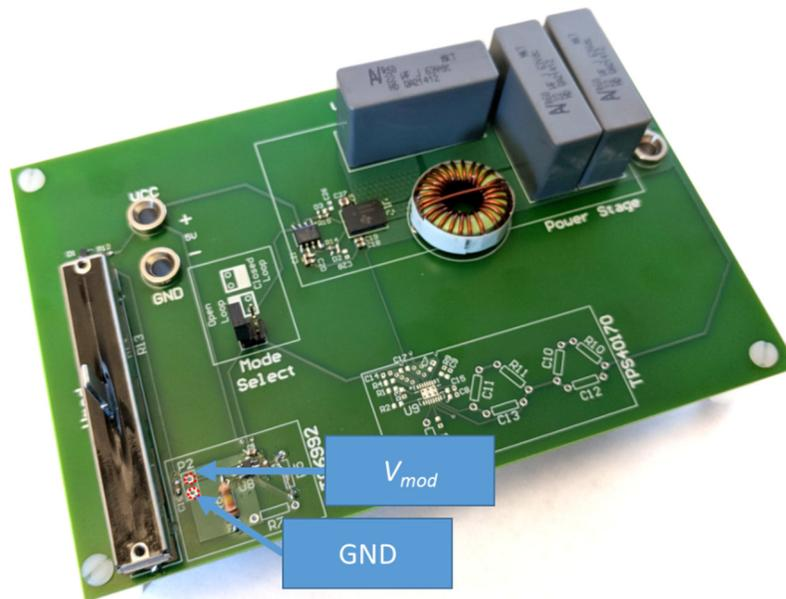

Fig. 4: Demo board used in Experiment 2, with the location of V_{mod} shown.
- Once the signal generator has been configured, connect the probe from the signal generator to V_{mod} . See Fig. 4 for the location of V_{mod} on the test board. Using a second probe, measure V_{mod} on Channel 1 on the front of the oscilloscope. Set both of these probes to 1x attenuation (on the probe and in the scope settings for Channel 1).